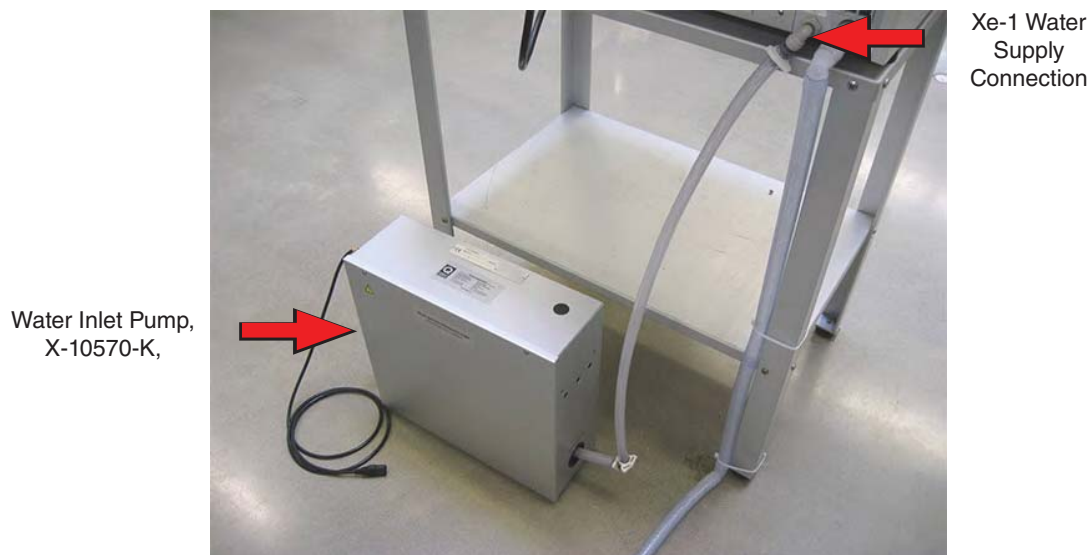

Figure 14.3: The water inlet pump connects to the Q-SUN water supply.
- Q-Lab offers a water inlet pump kit (Part Number X-10570-K) for Xe-1-SE, Xe-1-SCE and Xe-1-WE installations that do not have sufficient water pressure (Figure 14.3).